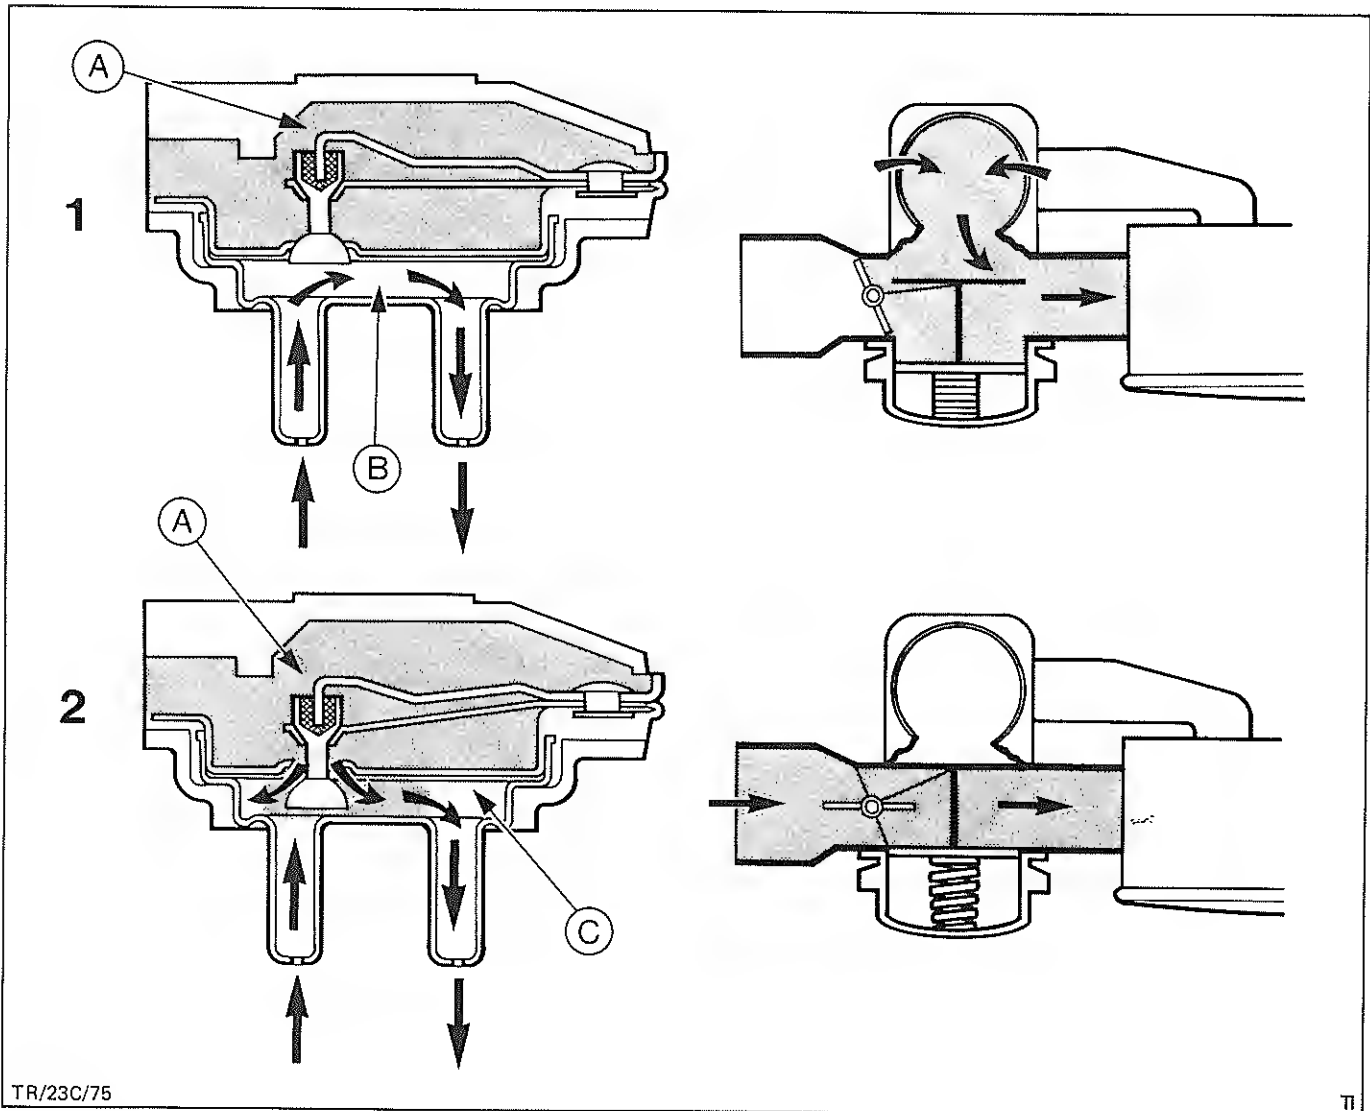

Fig.24. Heat sensor / diaphragm flap operation.
3. Bridge test circuit connection using suitable two 'bullet' connectors with wire link connection, Fig.24.